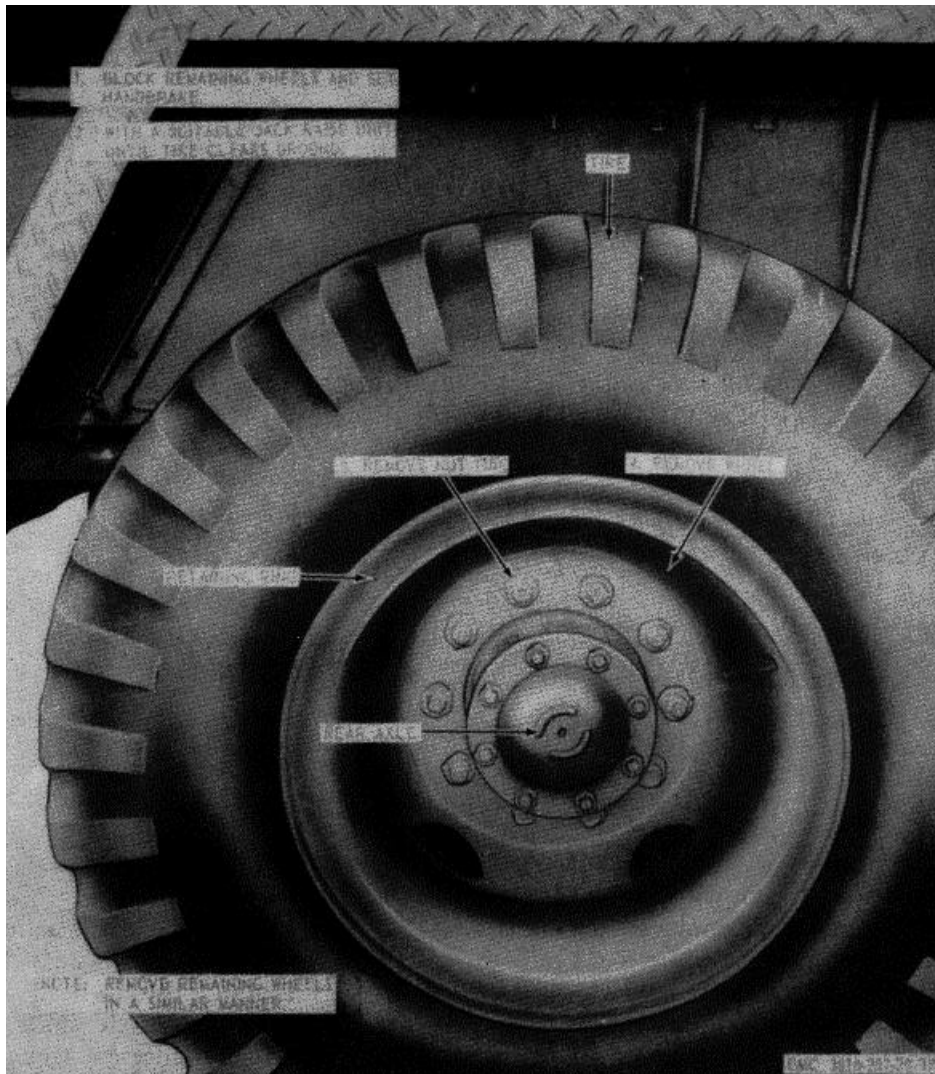

Figure 176. Rear wheel, removal and installation.
- a. Removal.* Remove the rear wheels as instructed on figure 176.
- (1) Clean the rear wheels with an approved cleaning solvent.
- (2) Inspect the rear wheels for bent condition and other damage. Replace rear wheels as necessary.
c. *Installation.* Install the rear wheels as illustrated on figure 176.